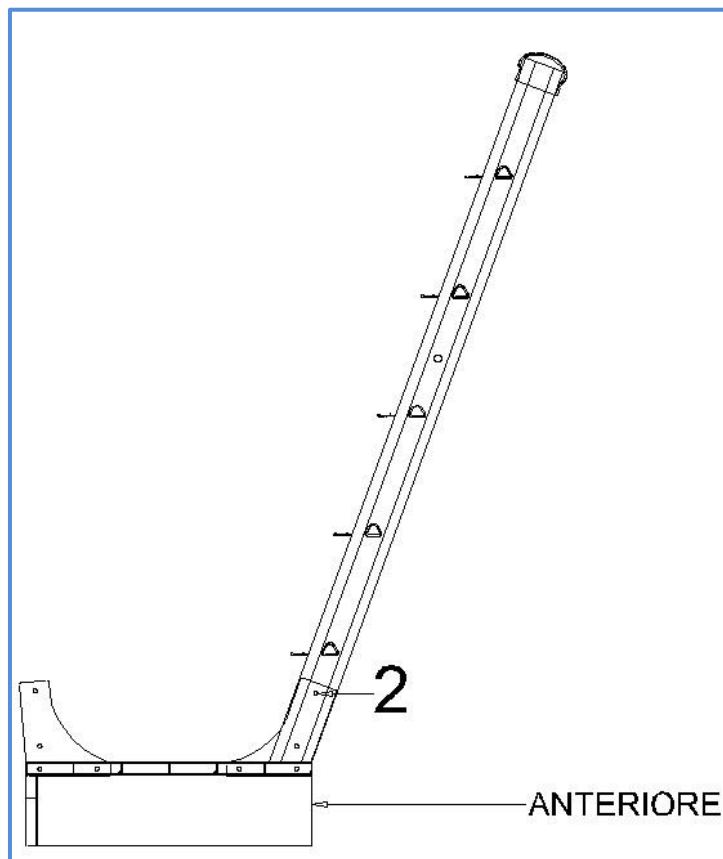

FIGURA 2
FASE 2: ACCOSTARE LA RAMPA DI RISALITA ALLA PARTE ANTERIORE DELLA PEDANA, PARALLELA ALLE PIASTRE DI FISSAGGIO ED INTERNAMENTE A QUESTE, COME DA FIGURA 2. INSERIRE, IN CORRISPONDENZA DEI FORI SEGNALATI CON FRECCIA (2), VITE BOMBATA M 8X45. AVVITARE SENZA STRINGERE A FONDO. RIPETERE L'OPERAZIONE DAI DUE LATI.